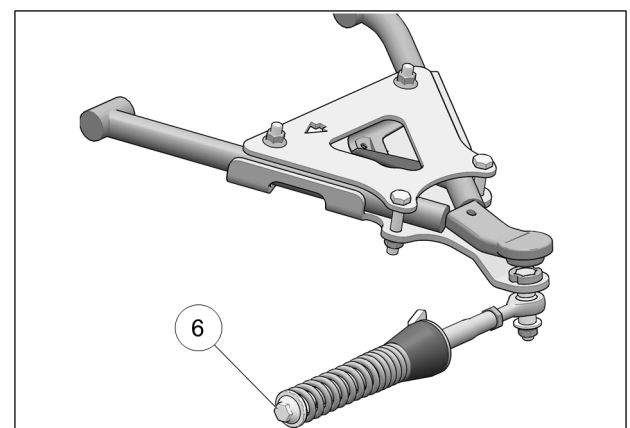

Fig. 20
11. Verify that spring assembly bolt (**6**) is tightened to the recommended torque specification: 75 N•m [55 lb•ft]. Refer to Fig. 20